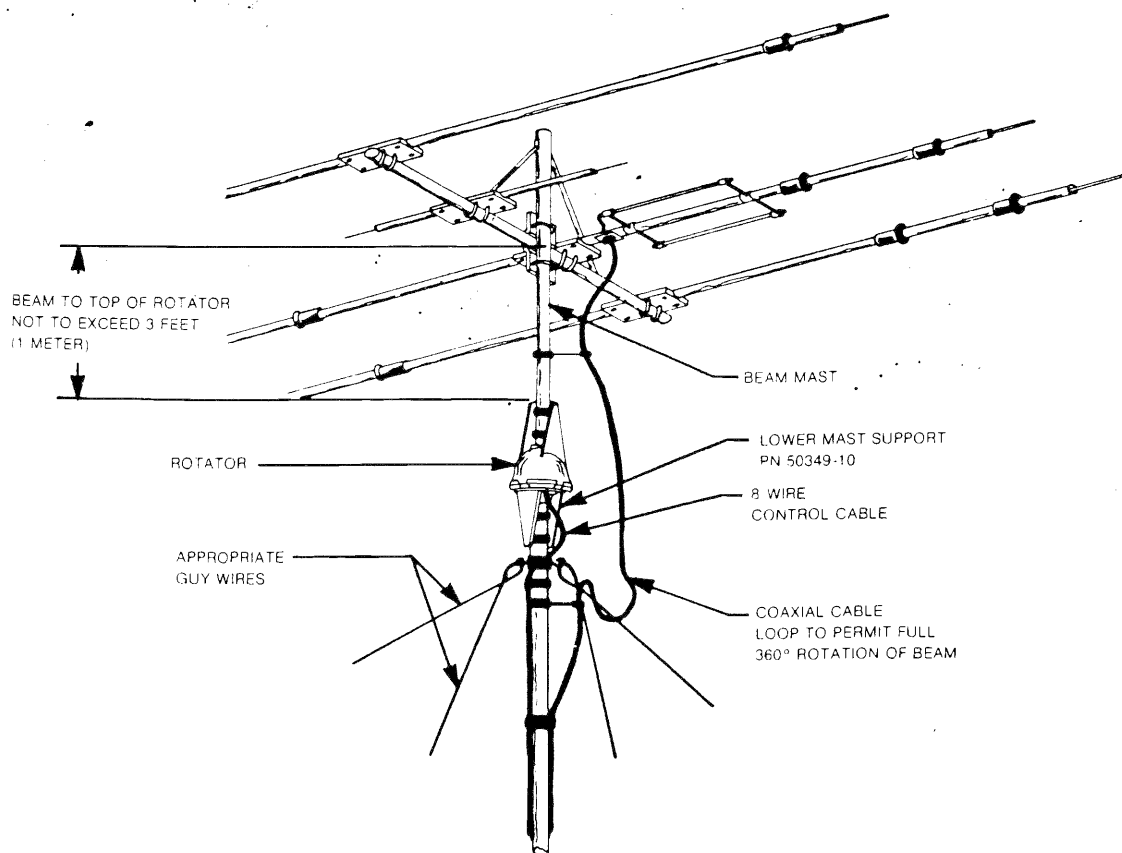

Figure 3. Pole Mounting
3. A telescoping or other type mast, as shown in Figure 3, can also be used. The lower mast support is also required for this installation.